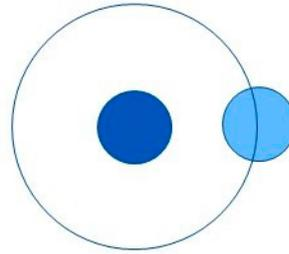

Figure 8-9. Horizontal Tilt Point Alignment View on CellX Aperture - No Overlap
- Any laser beam profiler (such as a slit or knife-edge type or CCD camera) with a measuring resolution of $\leq 5 \mu\text{m}$ can be used. See example in Figure 8-9.
Refer to the example in Figure 8-9. The center spot is the input beam. The reflected beam is visible at the edge of the lens.
1. Find the back-reflected beam from the objective lens. Rotate the yaw motion of the objective lens so that the reflected beam does NOT overlap with the input beam path. Refer to example in Figure 8-9.